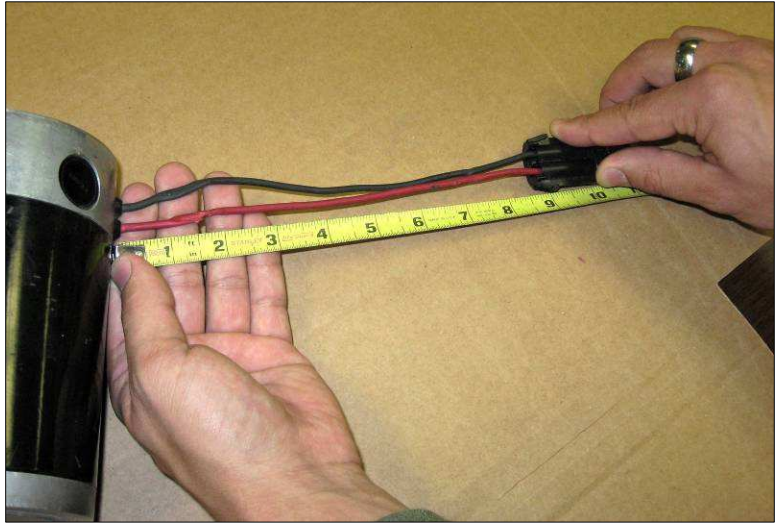

Figure 4 – Measuring the Motor Wires
- 5. Refer to Figure 4.** Measure the length of the wires from the old motor to the connector and note this length.